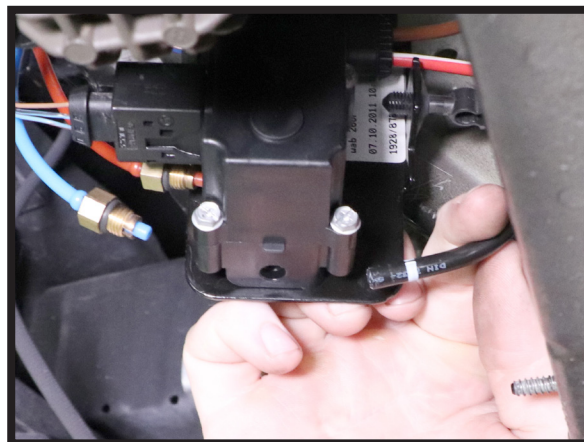

FIGURE 4
4. REMOVE THE AIR LINES FROM VALVE BLOCK. (FIGURES 4, 5)